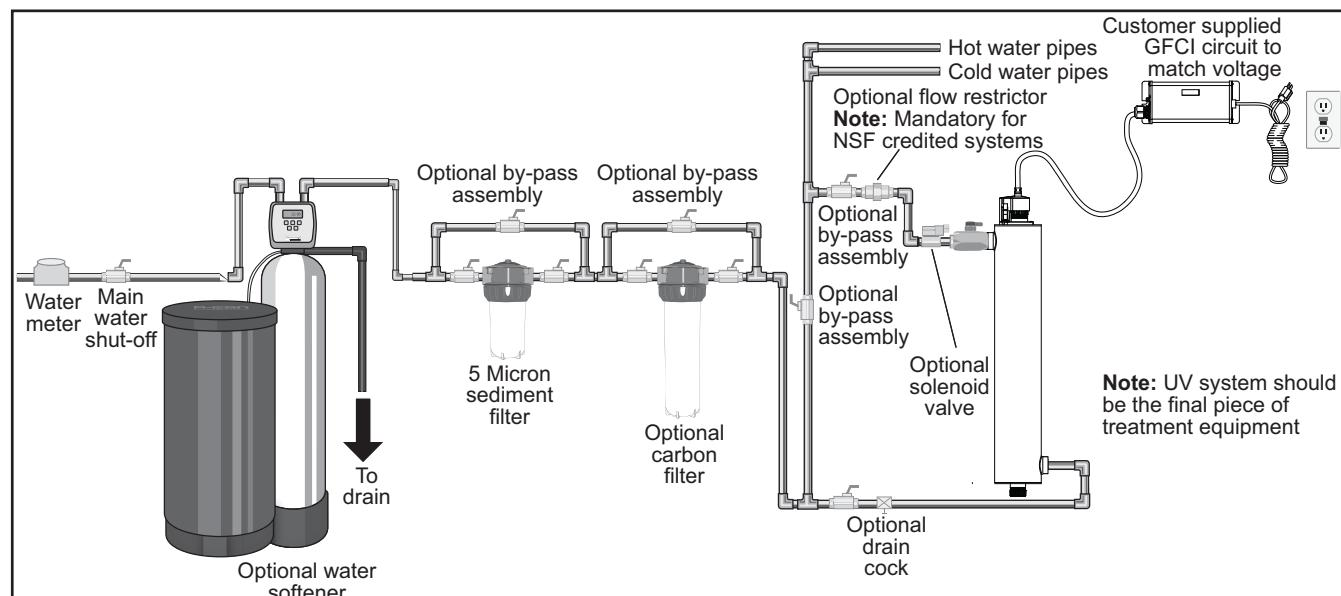

Figure 2 Disinfection System
- Figure 2 shows the installation of a typical disinfection system and the related components that may be used for the installation. The use of a by-pass assembly is recommended in case the system requires "off-line" maintenance. In this case, note the system requires a supplementary disinfection for the distribution system if any water is used during by-pass condition. In addition, during by-pass, the water will NOT be disinfected and a "DO NOT CONSUME THE WATER" tag should be physically installed on the by-pass assembly until such time as the system is sanitized and returned to service. For more information, refer to Section 3.2. If the water is to be consumed while the system is off-line, the water must be boiled for twenty minutes prior to consumption.